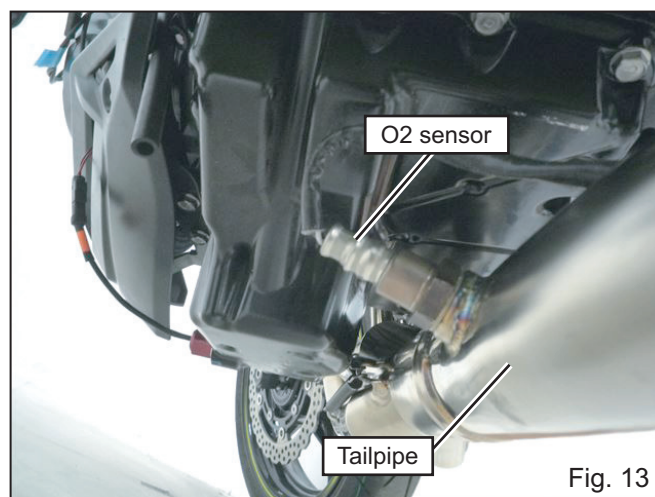

Fig. 13
- 11) Install O2 sensor which was removed at Step 2 on Tailpipe, tighten with the specified torque and connector the O2 sensor coupler to the vehicle. (See Fig. 13)